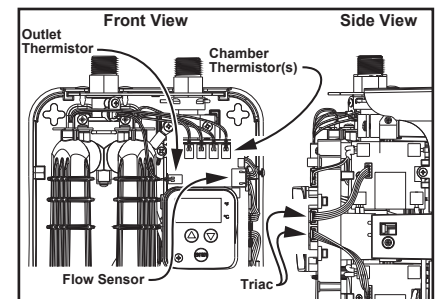

Figure 46 - Control Board Component Connections
3 With the front cover removed, take a moment to record or photograph how the control board is installed and where each components wire connection is located. See Figure 46.
- 6 Properly reconnect the thermistor and flow sensor wire harnesses to the new control board. Make sure the flow sensor and thermistor wire harness connections are connected to the proper control board terminal. See Step 3, Figures 46 and 47.